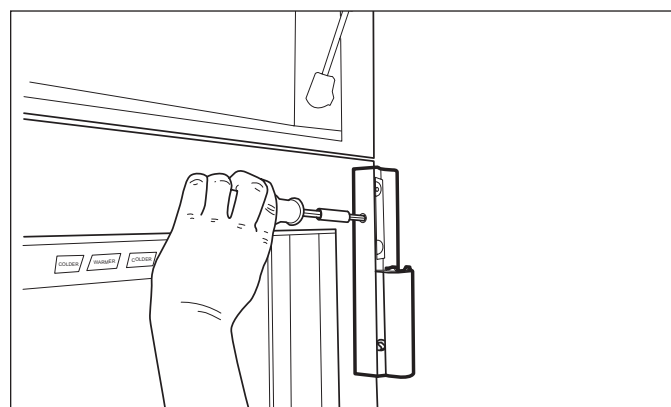

Figure 2-16. Cabinet Hinge Adjustment
5. Reinstall hinge pin and door. With door open, use the Allen wrench provided, and turn adjustment screw to adjust cabinet hinge (See Figure 2-16).